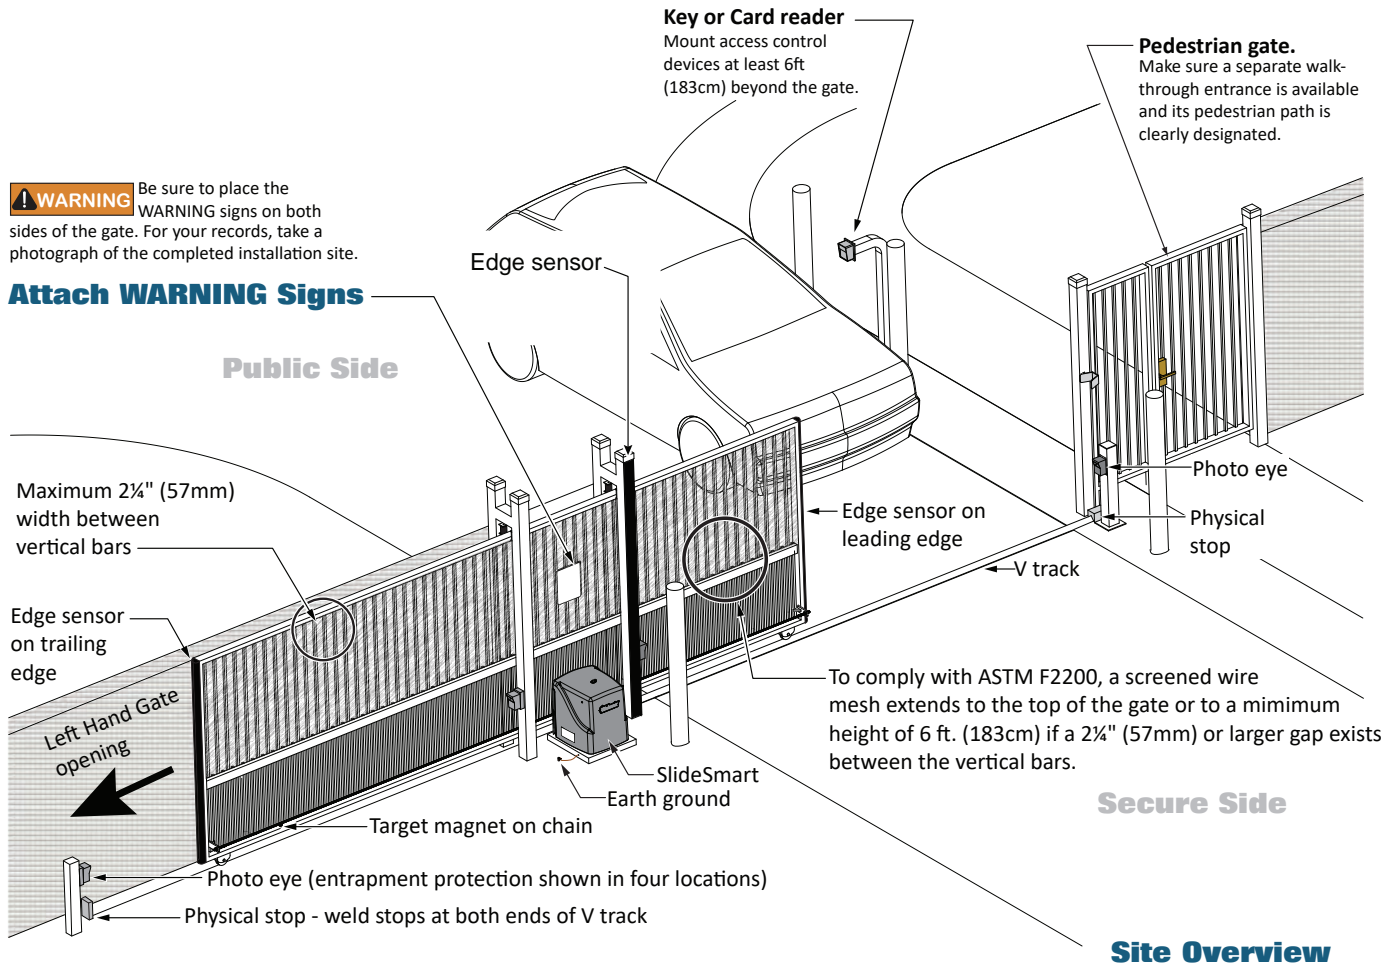

Figure 2. Site Overview and Planning
1. Follow the local building codes to identify the frost line and determine the required depth of the concrete pad. HySecurity recommends a minimum 16-inch depth with a minimum 2-inch extension. Refer to Figure 2.
2. Before pouring the pad, consider conduit placement so it fits within the confines of the 6.9 x 12-inch cutout in the SlideSmart as shown in Figure 2. Run separate conduits for:
3. Extend conduit height 2-inches (5cm) above the pad (4-inches (9cm) above ground level). Make sure the concrete forms are square with the gate and the pad is level. The operator footprint, with cover, is approximately an 18-inch square (4.7cm). See Figure 2 for the minimum pad dimensions.
1. Place the operator on the pad to best suit the conduit as shown in Figure 2. Use the operator as a template and center it on the pad. The chain path must be parallel with the gate.